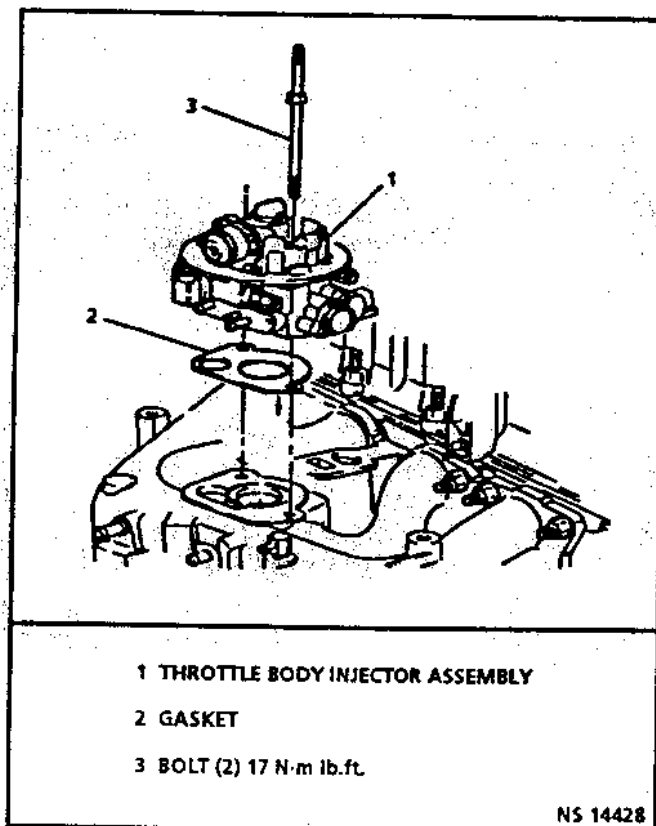

Figure 3.2-13 Removing Throttle Body Injection 700 Unit
8. Throttle body injection unit from intake manifold (Figure 3.2-13).